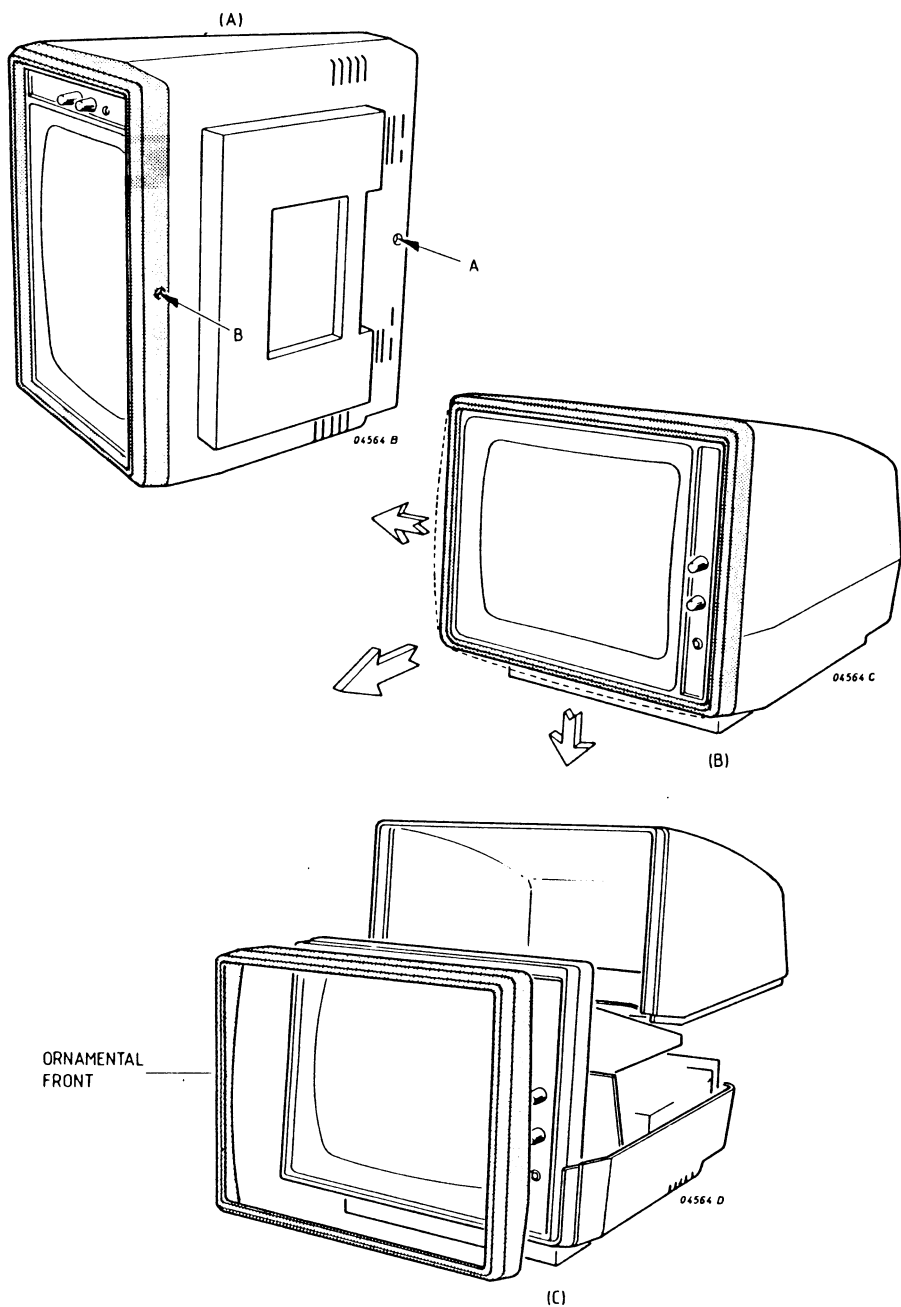

Figure 3.5 COVER REMOVAL P2705
Follow exactly the next procedure to remove the covers of the VDU. Refer to figure 3.5 and 3.6.
- Remove the two Phillips screws. (A)
- Remove the ornamental front (B) as indicated in figure 3.5. Starting from one of the corners, the two corner sides are pushed outwards while at the same time the corner is pulled to the front. Repeating this procedure for another corner will release the ornamental front.
- Remove the top cover by lifting the rear side. (C)